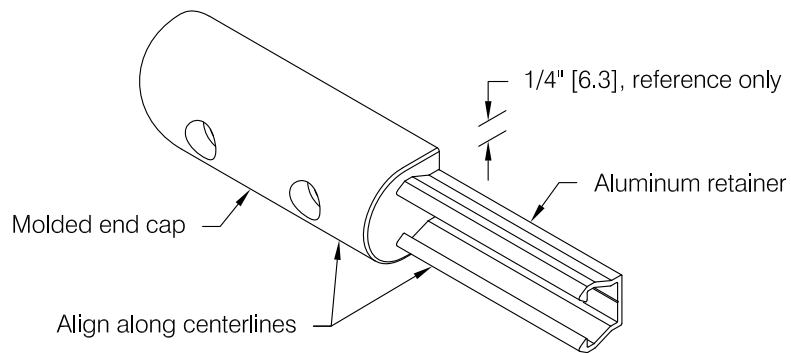

fig 3
Step 4: Install molded end caps and outside corners. End caps should be installed end-to-end against the aluminum retainer, see **fig 3**. The aluminum retainer cutting deduction provided in the **Cutting Adjustment Diagrams and Schedule** for outside corners will provide clearance between corner and retainer to ensure the molded corner will seat against the wall in both directions.